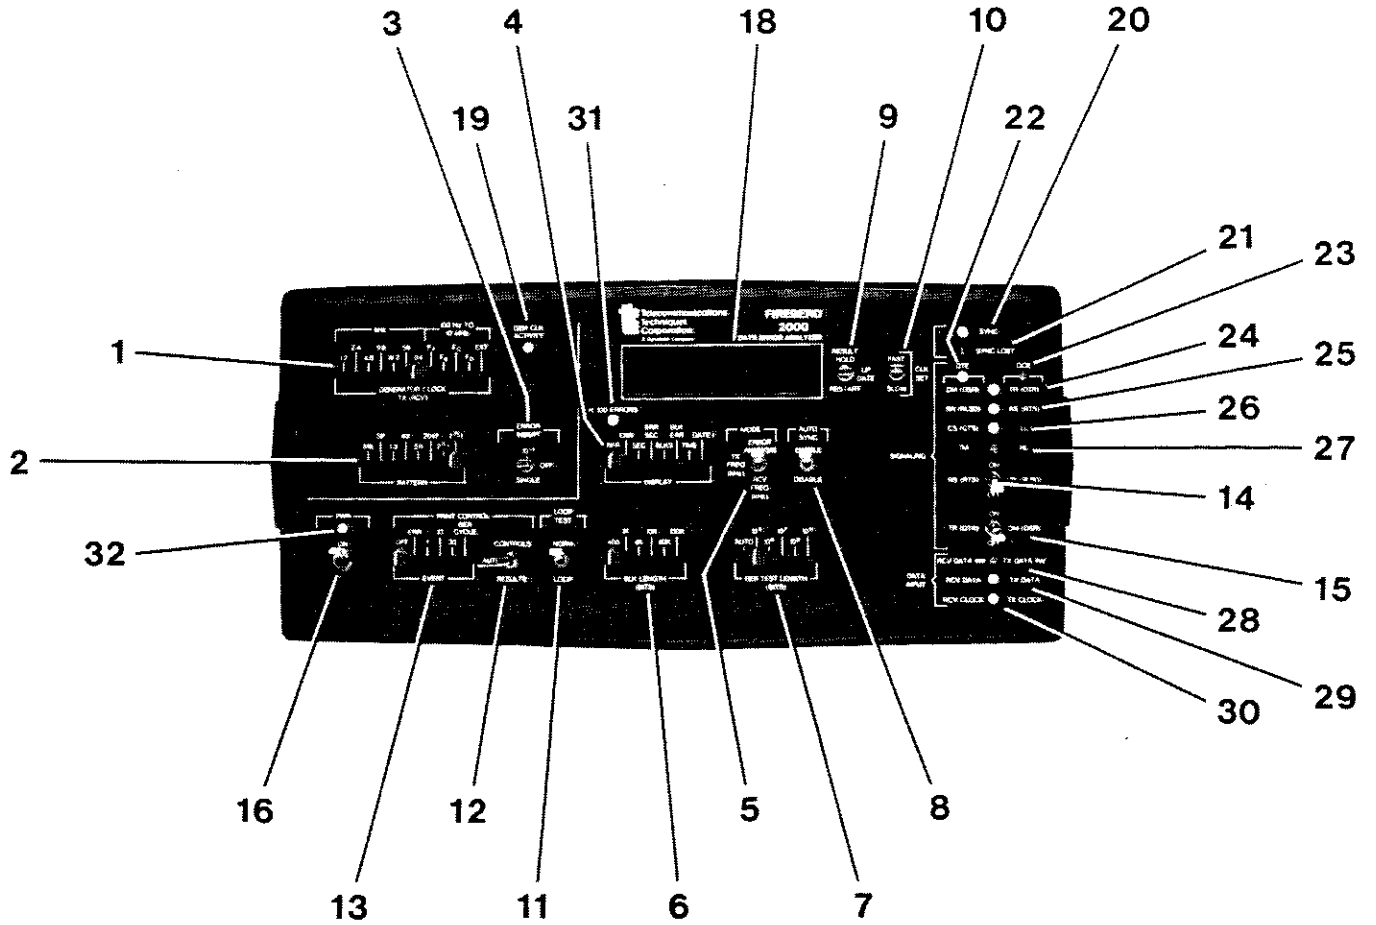

Figure 4-1
Figures 4-1 and 4-2 are photographs of the front and rear panels, respectively. The numbers on these figures correspond to the numbered descriptions which follow.
4.2.1 Selector Switches (See Figure 4-1)
4.2.2 Indicators - (Figure 4-1)